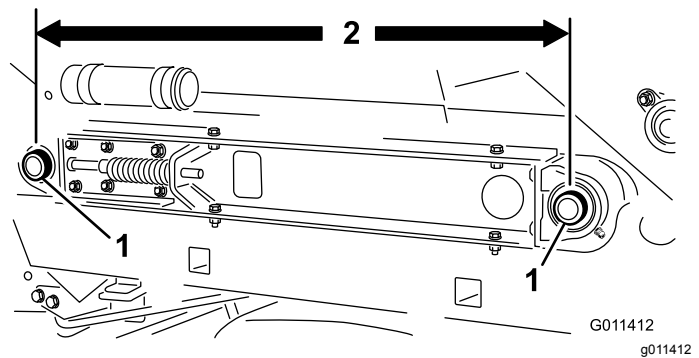

Figure 27
3. Check to ensure that the center distance between the conveyor belt roller shafts (Figure 27), on each side of machine, are equal distance—approximately 89.5 cm (35-1/4 inches).